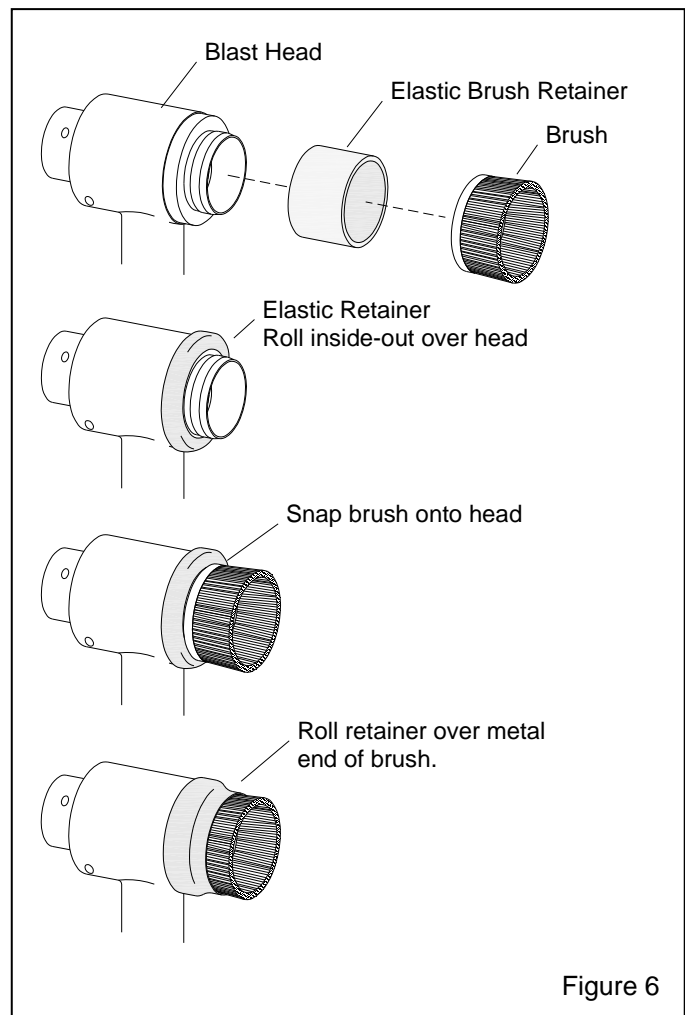

Figure 6
**3.4 Select Brush and Attach to Head, Figure 6**
**3.4.2.3** Roll the elastic over the end of the brush to secure, as shown in Figure 6.